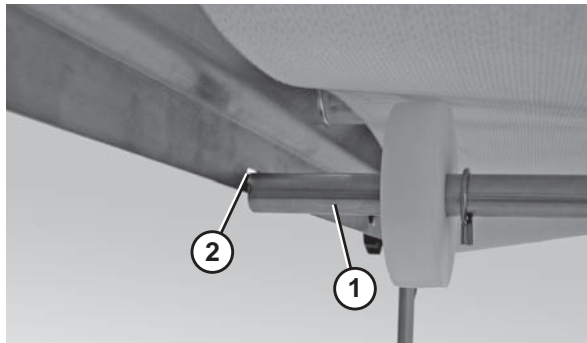

Figure 21
2. Push up on the return shaft (**Figure 21, item 1**) and slide the notched end of the shaft through the small slot (**Figure 21, item 2**) on the opposite side of the frame.